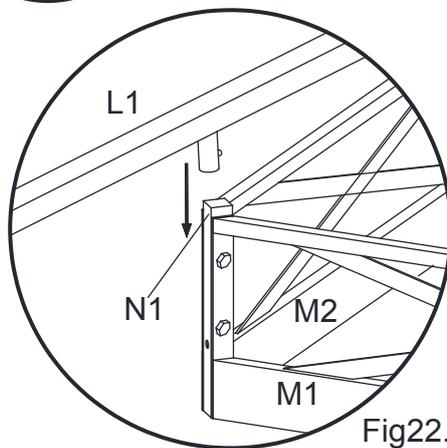

Fig22.2
10.2. Connect the Small-Top Bar (L1) to the Small-Top Center Device (L2) with Bolt (EE), then insert the other end into the Small-Top Connecting Tube (N1), as seen in Fig. 22.1-Fig 22.2.